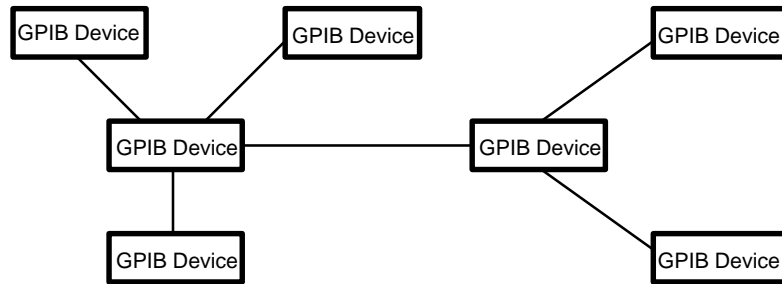

Figure 3-64: Typical GPIB Network Configuration
- There must be only one cable path from each device to each other device on your network (see Figure 3-64), and you must not create loop configurations.